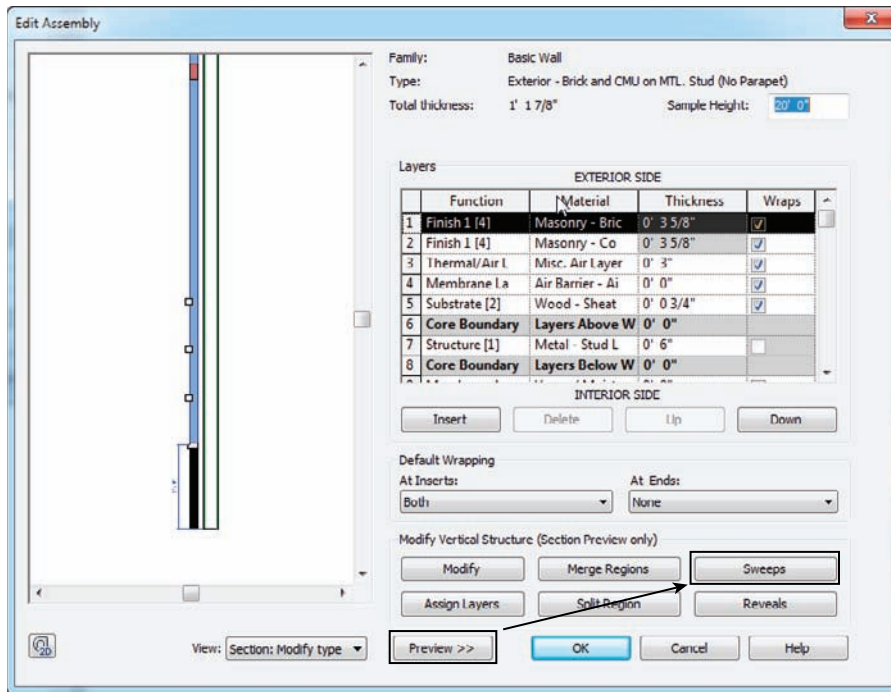

FIGURE 7.21 Without the Preview button selected, you will not be able to modify the parapet sweep.
7. In the Edit Assembly dialog box, make sure the Preview button has been selected and the view has been set to Section, as shown at the bottom of Figure 7.21.
8. Click the Sweeps button, as shown in Figure 7.21.